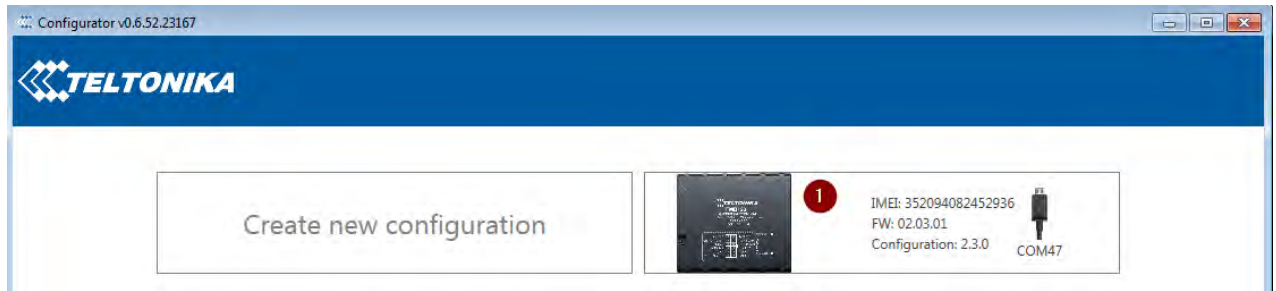

Figure 45 FMB1YX configurator connected devices window
- Launch **FMB Configurator** and connect to device as shown in **Figure 45** below.